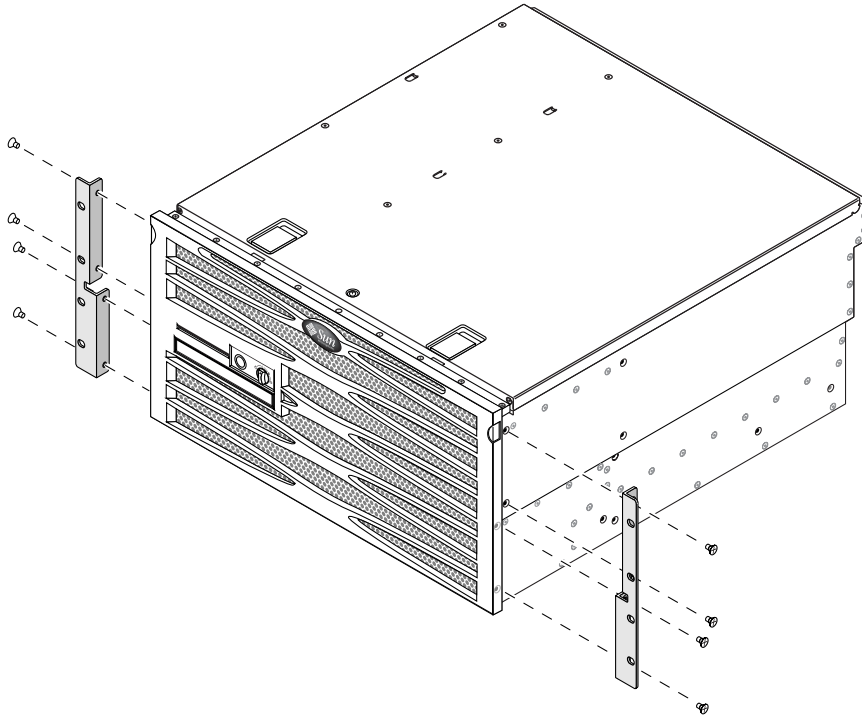

FIGURE 3-2 Securing the Hardmount Brackets to the Server
2. Using eight of the supplied M5 × 8 mm flathead Phillips screws (four screws for each bracket), secure the front hardmount brackets to the sides of the server (FIGURE 3-2).